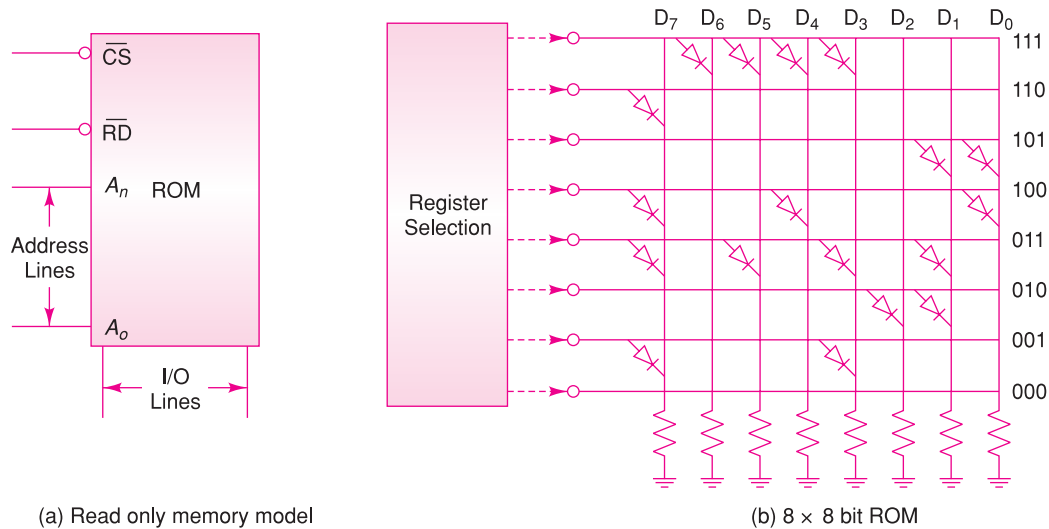

Figure 1.4 Read Only Memory
**Read Only Memory** The read only memory is the simplest kind of memory. It is equivalent to a group of registers and each store a word permanently. It is a nonvolatile memory which means that it retains the stored information even if the power is turned off. By applying control signal, we can read the contents of any memory location and if the processor attempts to write data to a ROM location, ROM will not accept the data. The model of a typical read only memory is shown in Fig. 1.4(a). The concept of ROM can be explained with the diodes arranged in a matrix format, as shown in Fig. 1.4(b). The horizontal lines are connected to the vertical lines using diodes to store '1'. The presence of diode stores '1' and the absence of diode stores '0'. When a register is selected, the voltage of that line goes high, and the output lines, where the diodes are connected also go high. When the memory register 010 is selected, the data byte 00000110 (06H) can be read at the data lines.